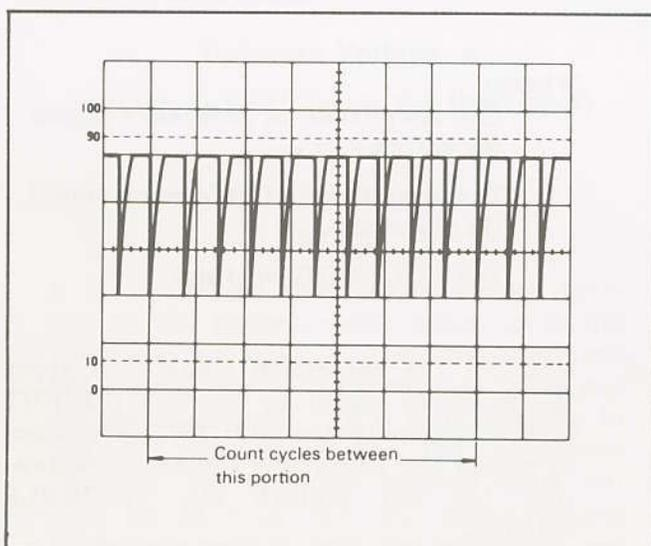

Fig. 9. Alternate Method of Frequency Measurement.
(Refer to Fig. 9)
2. Count the number of cycles of waveform between a chosen set of vertical graduation lines (see Fig. 9).
For the example shown in Fig. 9, there are 10 cycles within 7 divisions. If the SWEEP TIME/DIV is 5 μ s and X10 MAG is not used, the frequency is calculated as follows: